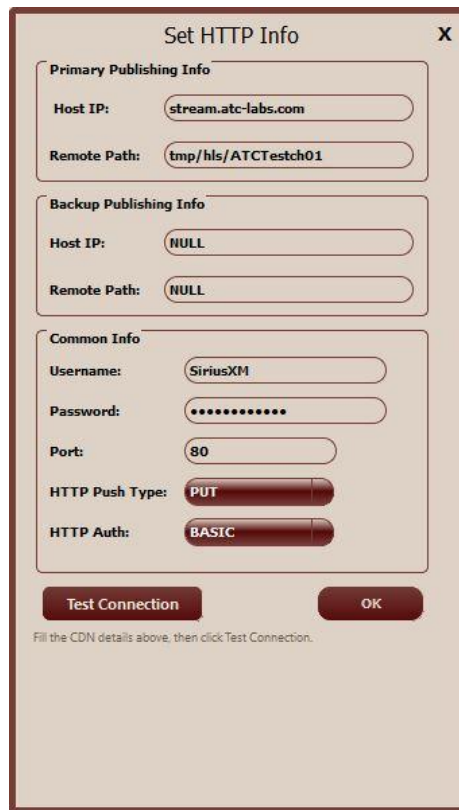

Figure 4.3.3: AAC HTTP Info Settings Panel
- **HTTP Push Settings:** Opens the Set HTTP Info panel (Figure 4.3.3), where the destination URLs and credentials are configured.
As with AAC, enable **HTTP Primary Push** and/or **HTTP Backup Push** to send the stream to remote servers, and use **HTTP Push Settings** to configure the destination URLs and credentials (the panel is the same as Figure 4.3.3).